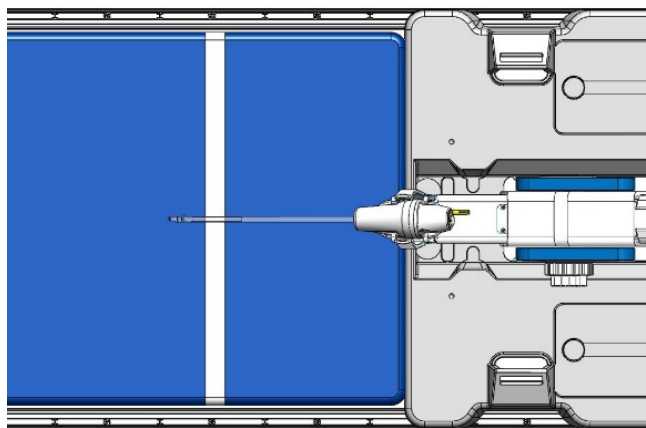

Figure 18: Centering and aligning the coils with the prostate
2. Position the patient on the MRI bed in a head-first supine position so that their sagittal midline is centered from left to right on the MRI table, and their prostate is at the white line of the patient pad (*Figure 18 [Your configuration might not match exactly as shown]*).